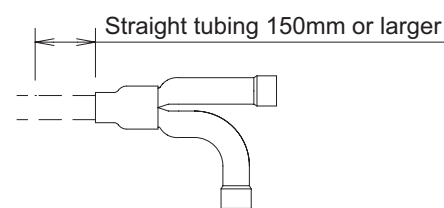

Fig. 2-7-7
- For branching tubes, install 150mm or larger (including reducer) straight tubing up to the point where the tube branches (or after the point where the tubes join together). (Fig. 2-7-7)